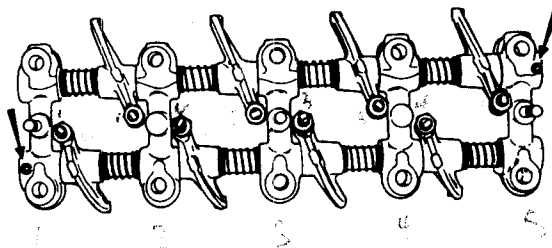

Fig.1.24 Type 807 rocker shaft securing roll pin positions
- 2 Drift out the spring roll pins which retain the rocker shafts to their pillars, Fig.1.24.